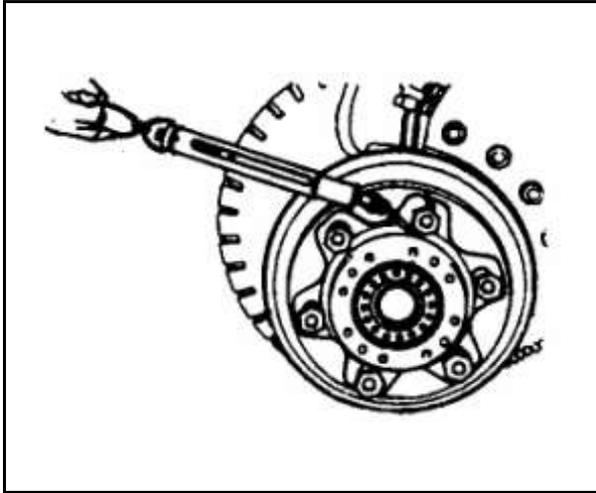

Fig.3-6
7) Turn wheel hub back and forth two or three rotations to see if rotation starting torque is within specifications. Rotation starting force: 10N~29N (refer to Fig.3-6);